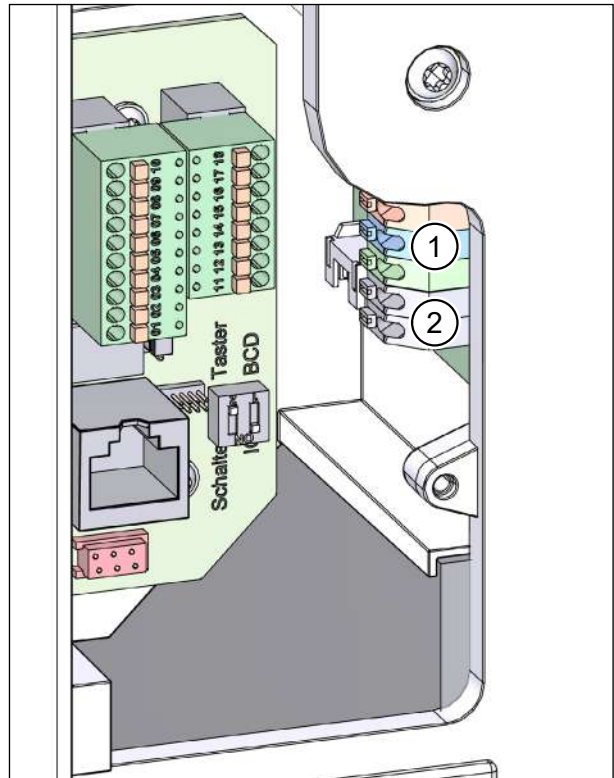

Fig. 48: Connecting the M-WRG-II O/EGG-AUS option
- ▶ If used, connect the control cable for the fault indicator input (item 1 in Fig. 48) and/or the “Unit OFF” input (item 2 in Fig. 48) to the connection board in the ventilation unit (see circuit diagram and description in section 10.9.3 on page 31).